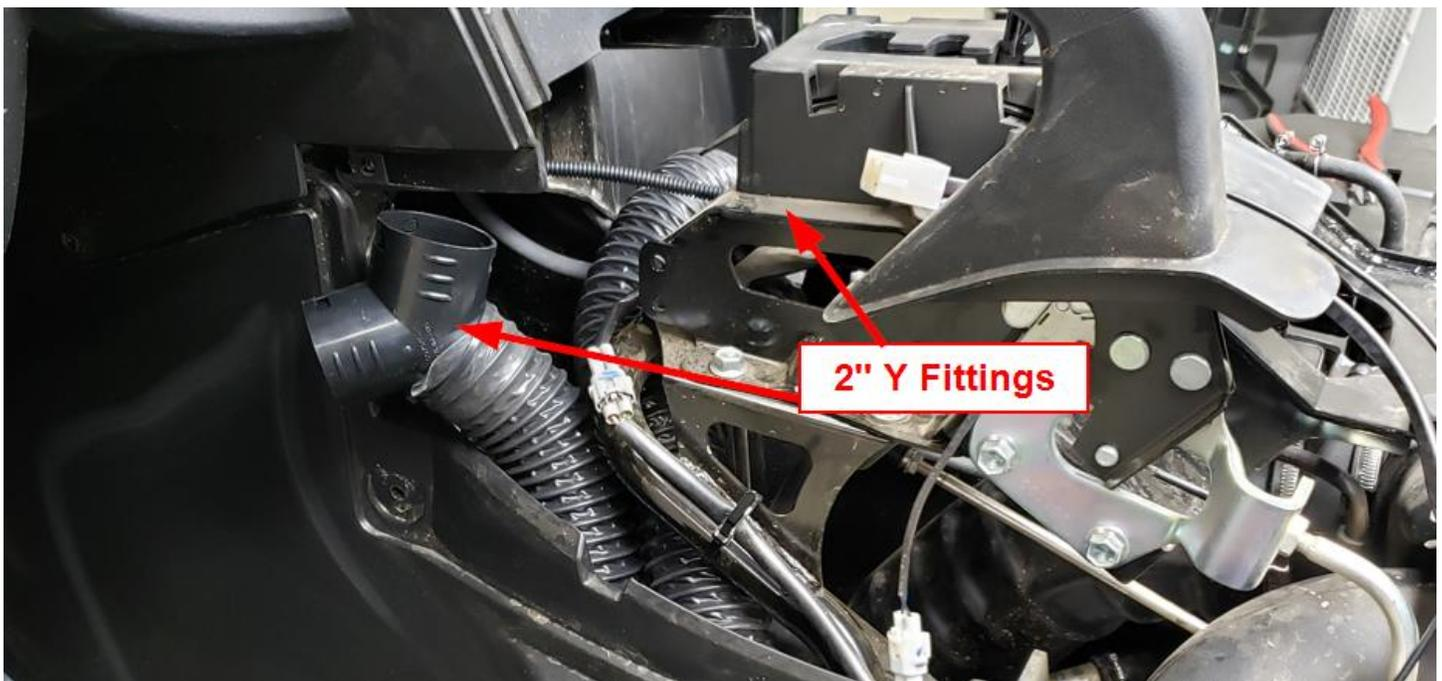

Figure 21
- d. Attach 2” Y Fittings to each hose in the center tunnel and secure using a zip tie as shown in Figure 21.